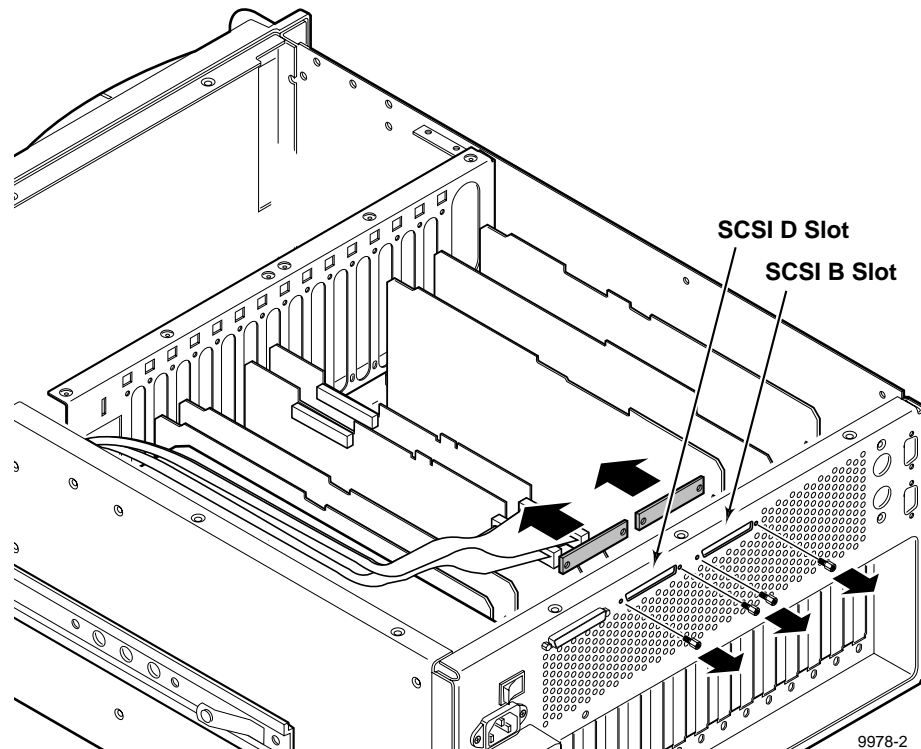

Figure 10. Removing the Back Panel Metal Plates
- Using a 3/16-inch hex wrench, remove and set aside the metal plate that covers the SCSI D slot and (optionally) the SCSI B slot on the back panel of the Profile chassis. See Figure 10.